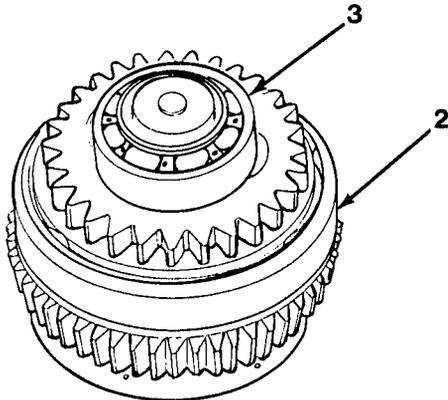

Figure 11-9
15. Install bearing (3) on clutch shaft assembly (2, Figure 11-9) by using a press.